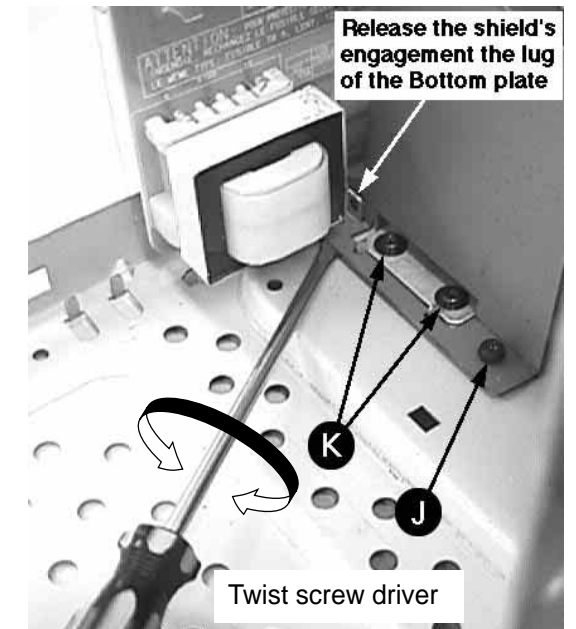

Figure 11
- 2) Loosen 1 screws J and uncatch Shield Transformer from the Bottom plate (pos 265) as shown in figure 11 to remove it.
- 4) Loosen 2 screws L to remove the Housing Fan top (pos 267).